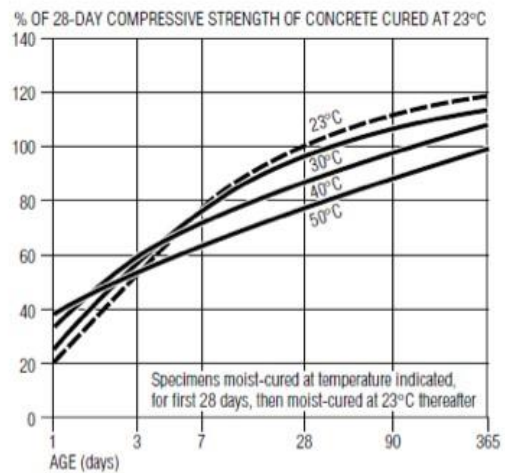

Figure 3: Effect of high curing temperatures on concrete compressive strength
- **Concrete temperature** Hot weather conditions may increase the temperature rise in concrete caused by the heat of hydration of the cement. In larger sections temperature gradients through the element may cause thermal cracking. Laboratory tests show that sustained higher temperatures significantly influence the compressive strength gain of hardened concrete (See Figure 3). While increased concrete temperatures may result in an increase in the early rate of strength gain, this will often lead to reduced long term strength. Concrete delivered at lower initial temperature as well as concrete cured at lower temperatures will generally achieve higher ultimate strength even though the early strength will be reduced.